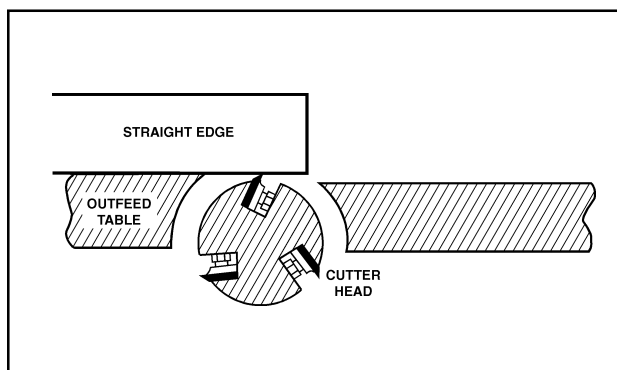

Fig. 9
4. Position of the table and straight edge should look like figure 9. Use care when handling the straight edge near the blades so as not to damage them.